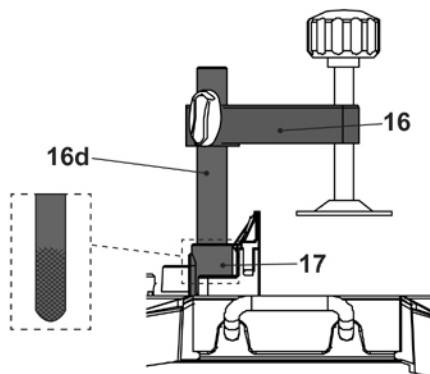

Fig. 3
The workpiece clamp (16) is pre-assembled (Fig. 3). Insert the height adjustment pillar (16d) into the workpiece clamp holder (17) on either side of the base if necessary.